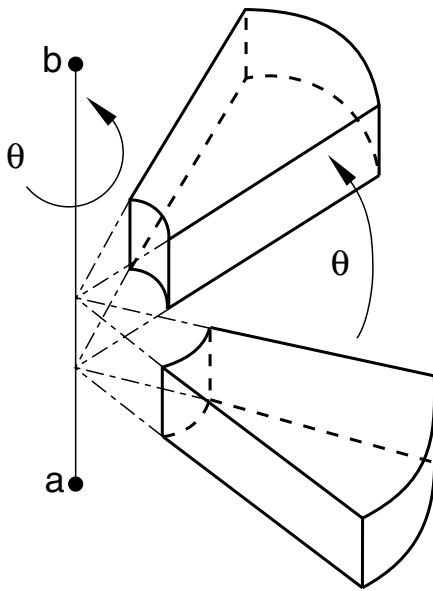

Figure 1: Rotation of an element set.
1. X -coordinate of point a on the axis of rotation (see Figure 1).